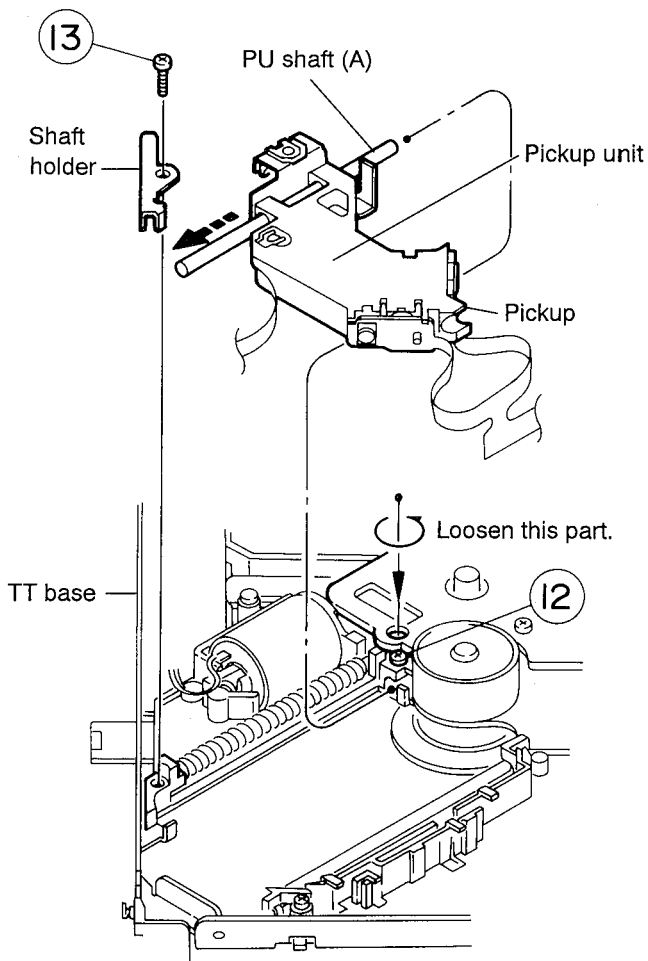

Fig. 4-22
(See Figs. 4-22 and 4-23)
1. By loosening the screw (12) retaining the pickup (PU) shaft (A), remove the screw (13) and dismount the shaft holder (See Figs. 4-22 and 4-23).
● Assembly of pickup unit (See Figs. 4-22 ~ 4-25)
3. Insert the PU shaft (A) to the pickup and press it fully to the end on the TT base side (See Fig. 4-22).
4. After attaching the shaft holder, tighten the loosened screw (12) (See Fig. 4-22).